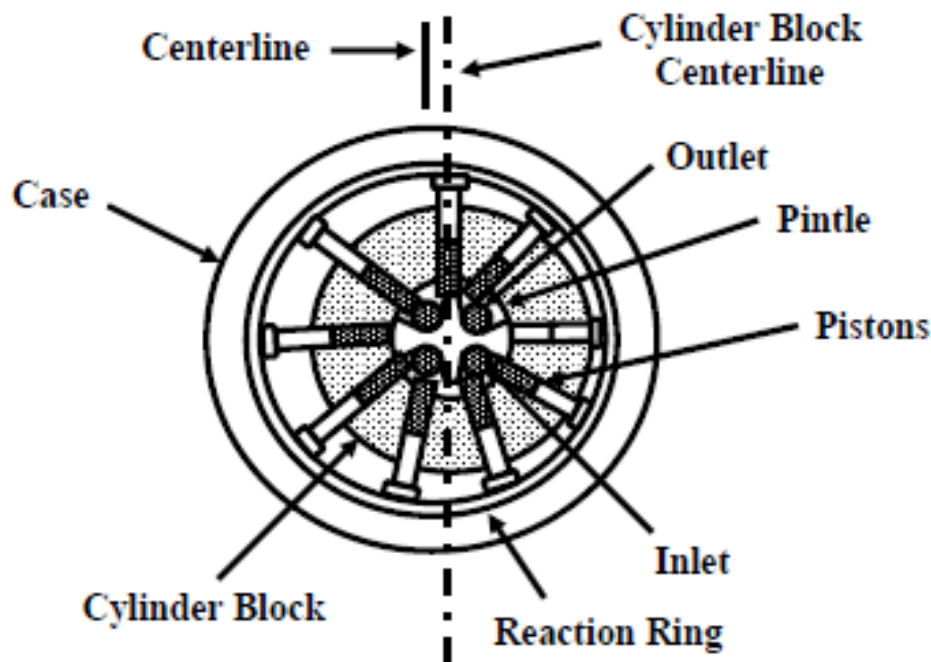

Fig.3.10 - Radial piston pump
- ▶ The typical construction of a radial piston pump is shown in Figure 3.10. The piston pump has pistons aligned radially in a cylindrical block. It consists of a pintle, a cylinder barrel with